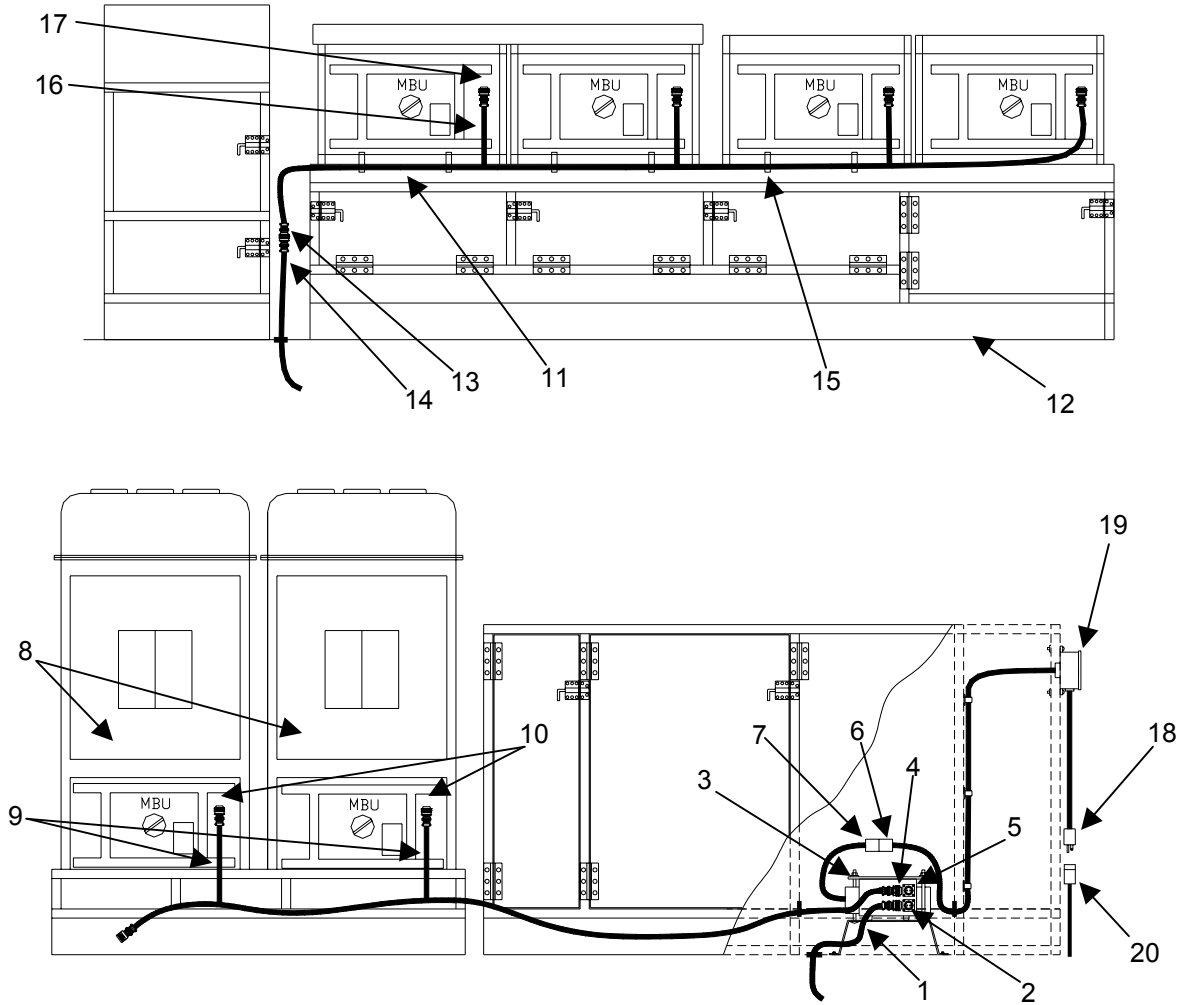

Figure 3. Connecting Power Cables to MKT
1. With the power converter in position on the mounting bracket, connect the end of the Crossway Cable (**figure 3, item 1**) extending up through the floor of the cooling cabinet to the lower output connector (**figure 3, item 2**) on the power converter (**figure 3, item 3**).
2. Connect the main connector (**figure 3, item 4**) of the 2 branch cable to the upper output connector (**figure 3, item 5**) of the power converter (**figure 3, item 3**).
3. Connect the end of the Feedway Cable (**figure 3, item 6**) extending up through the floor of the cooling cabinet to the power cord (**figure 3, item 7**) of the power converter (**figure 3, item 3**).
4. Pass the remainder of the 2-branch cable through the left side of the cooling cabinet and distribute it under the two M59 Field Ranges (**figure 3, item 8**).
5. Pull the individual branch cables (**figure 3, item 9**) out the front of each appliance and connect each branch to the power-in receptacle (**figure 3, item 10**) of each MBU.
6. Distribute a 4-branch cable (**figure 3, item 11**) along the floor in front of the appliances (**figure 3, item 12**) on the opposite side of the MKT.
7. Connect the main connector (**figure 3, item 13**) of the branch cable to the end of the Crossway Cable (**figure 3, item 14**) extending up through the floor of the MKT opposite the cooling cabinet.
8. Hang the 4-branch cable along the front of the appliances with cable clips (**figure 3, item 15**) provided with the MBU.
9. Connect each branch (**figure 3, item 16**) of the 4-branch cable to the power-in connector (**figure 3, item 17**) of each MBU.
10. Slide the clips (**figure 3, item 15**) left or right as needed to organize the cable along the front of the appliances to help prevent the cable from extending into the work area.
11. With the power converter main power switch OFF, connect the Feedway Cable receptacle (**figure 3, item 18**) located just below the GFCI outlets (**figure 3, item 19**) mounted to the side of the cooling cabinet to the designated power source using the 50-ft (110VAC) extension cord (**figure 3, item 20**) provided.